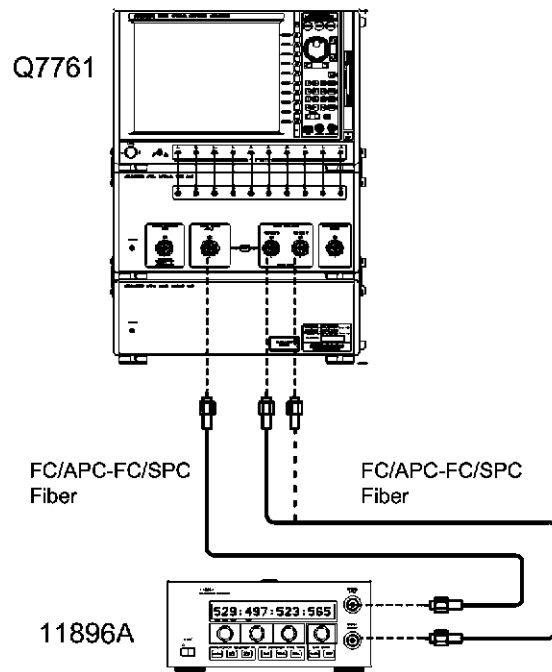

Figure 2-11 Connection for Polarization Dependency (Dispersion Measurement Mode) Test
1. As shown in Figure 2-11, connect the “OPTICAL OUTPUT” of the polarization controller with “TEST PORT 1” of this instrument, using the FC/APC-FC/SPC optical fiber.